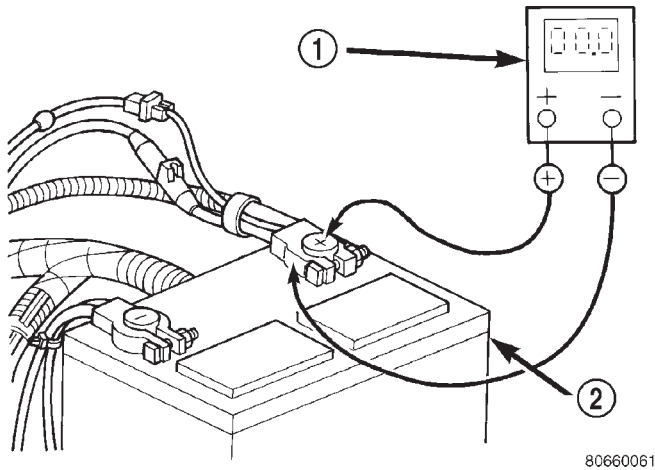

Fig. 22 Test Battery Positive Connection Resistance - Typical
(2) Connect the positive lead of the voltmeter to the battery positive terminal post. Connect the negative lead of the voltmeter to the battery positive cable terminal clamp (Fig. 22). Rotate and hold the ignition switch in the Start position. Observe the voltmeter. If